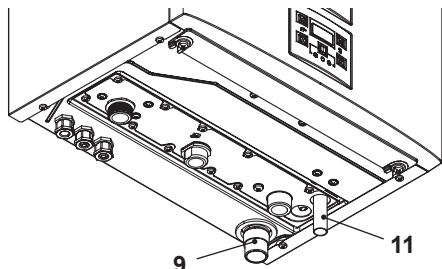

Fig. 6.4
- Connect the pipe 11 (Fig. 6.4) from the pressure relief valve to the safety discharge pipework.
- Fit the condensate drain 9 (Fig. 6.4) in to the drainage pipework.